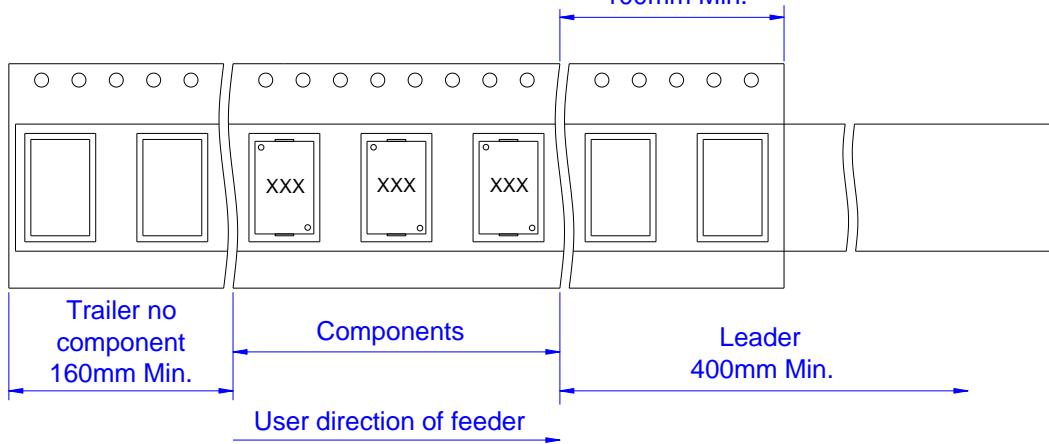

Fig. 9.1.1-2
2) Direction of rolling (Please refer to Fig. 9.1.1-2) **Leader no component 100mm Min.**